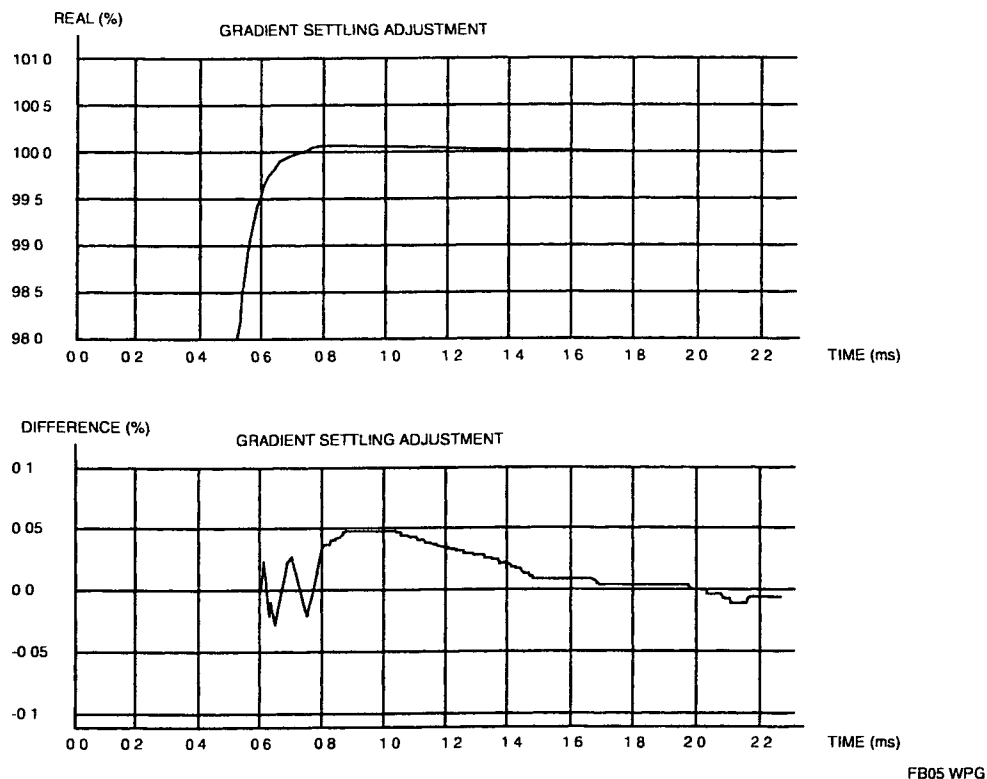

Figure 18: monitoring screen
(see figure 18 for POWER and figure 21 for MASTER)
- Now you have to check the 'real' signal (see the upper signal in figure 18). Overshoots above the 100% level near the end of the slope, can shutdown the gradient amplifier, due to signal errors which result in a scan abort. A too slow response can cause gradient strength performance problems and can also shutdown the gradient amplifier, due to signal errors which result in a scan abort.
Use the HFEQ1 potentiometer to adjust the real signal according to the upper signal in figure 18 and keep the difference signal within spec with the BW1 and TC1 potentiometers.